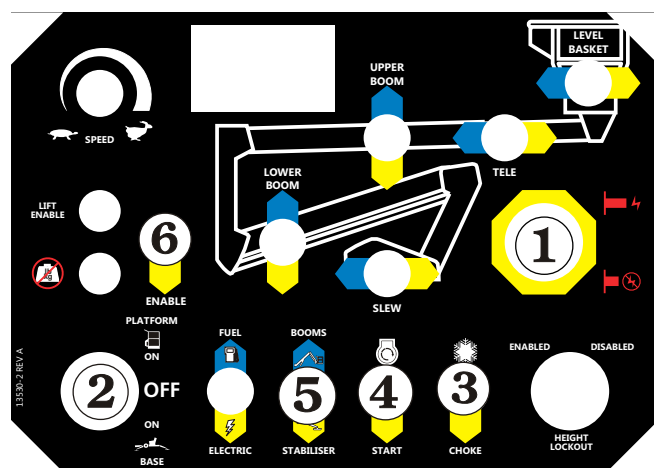

Figure 8.7 - Ground Control Box Starting
Ensure the Boom/Stabiliser Switch (item 5 on the ground control box) (see Figure 8.7) is set to stabiliser.
1. Set the **Emergency Stop** switch ① to ON (see Figure 8.7).
2. Insert the key and set the **Platform/Ground Selector** switch ② to GROUND (see Figure 8.7).
- If the engine is at ambient temperature (cold), hold the **Choke / Cold Start Switch** ③ (see Figure 8.7) down throughout the next step.
- Press down on the **Start Switch** and hold it there until the engine starts or for a maximum time of 6 seconds. When the engine starts release the start switch ④ and the choke switch ③, if you used it (see Figure 8.7).
- Press down on the **Start Switch** and hold it there until the engine starts or for a maximum time of 6 seconds. When the engine starts release the start switch ⑦ and the choke switch ⑥, if you used it (see Figure 8.7).